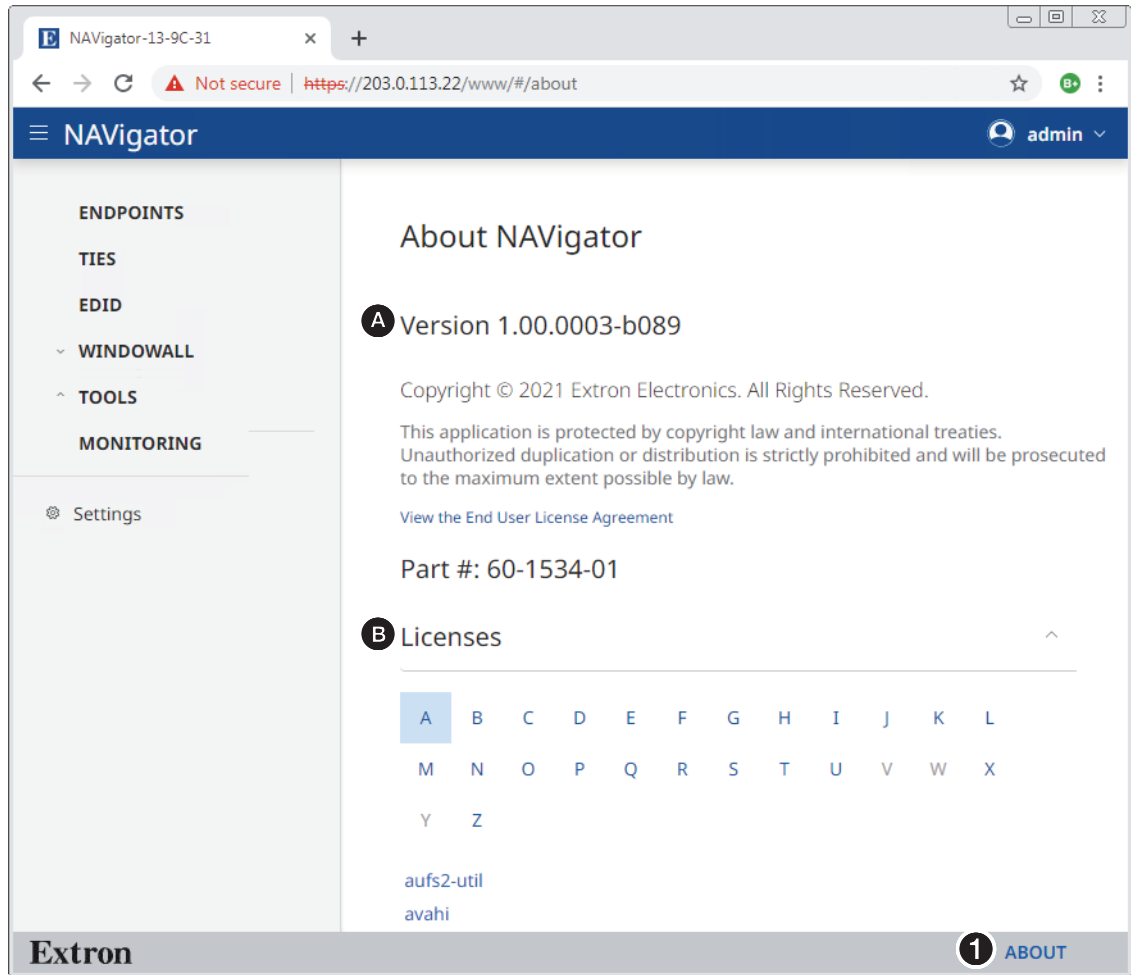

Figure 117. About Page
Access the About page by clicking **About** (see figure 117, ❶).